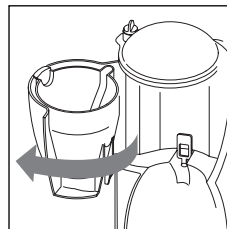

fig. 7
- Open the filter holder door by pulling it to the left (Fig. 7).